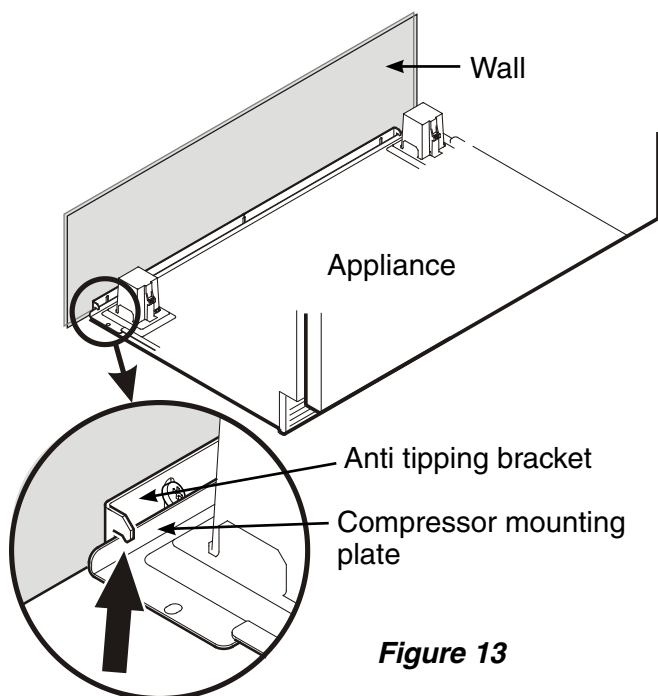

Figure 13
4. Push the appliance slowly to the back wall until the compressor mounting plate makes contact with the anti tipping bracket (**Figure 13**).
To prevent the appliance from tipping forward the compressor mounting plate must have contact with the anti tipping bracket (Figure 13).